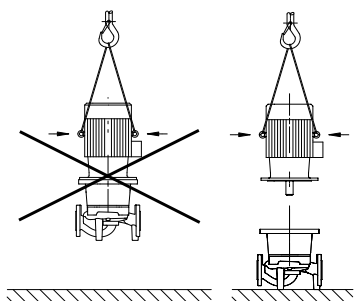

Fig. 8: Attaching the motor
- The transport eyes on the motor are only for transporting the motor, and are not approved for transporting the entire pump (Fig. 8).